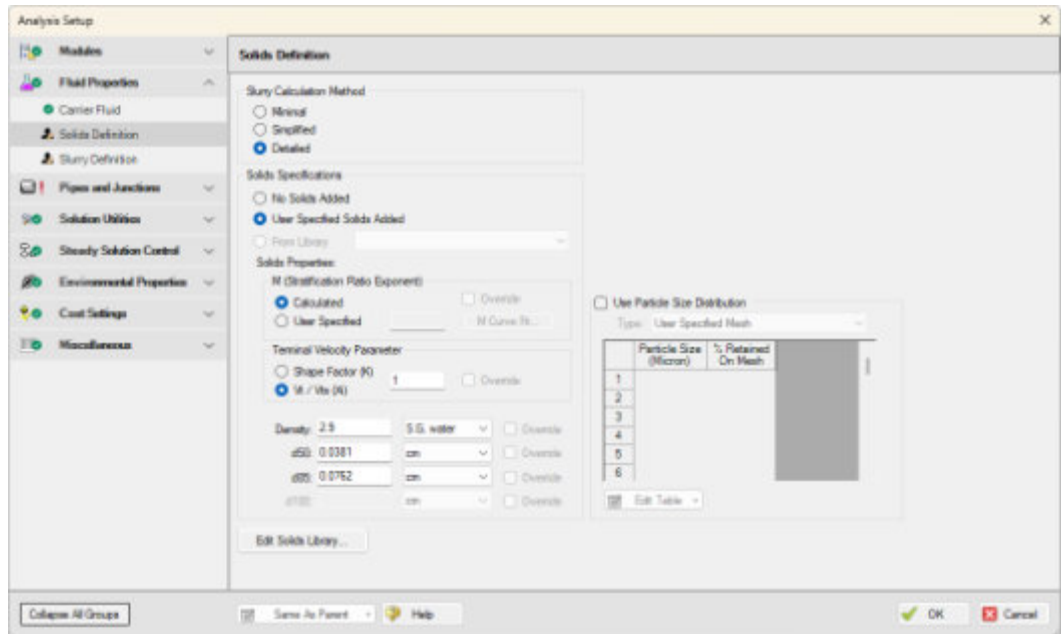

Figure 5.22 Fully Defined Solids Definition panel
5. Go to the Solids Definition panel and enter the following as shown in Figure 5.22: